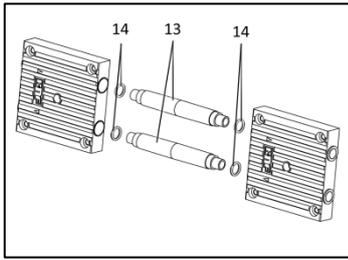

Fig. 34: Extraction of pneumatic connection and O-rings
Pull apart the pump heads and take the pneumatic connections (13) and the O-rings (14) (see Fig. 34).